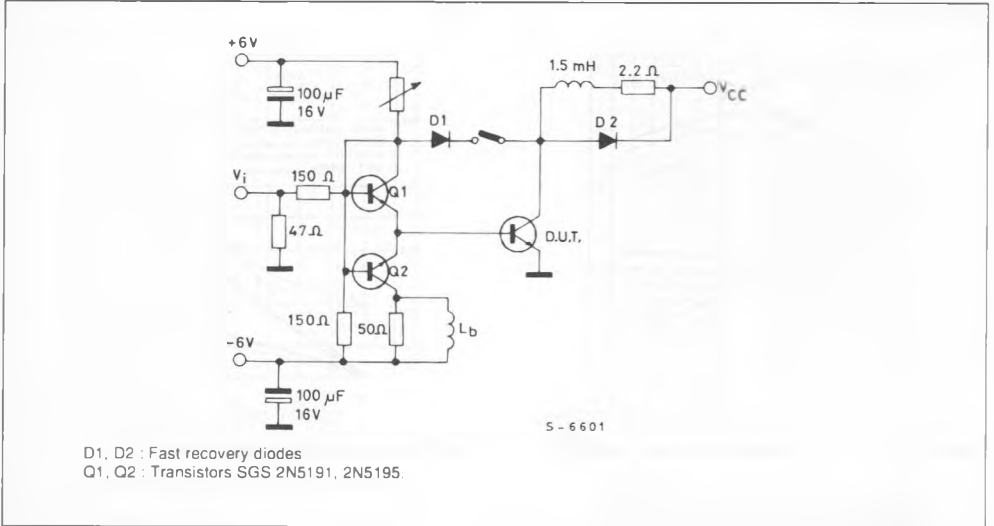

Figure 2 : Switching Times Test Circuit on resistive Load.
**RESISTIVE SWITCHING TIMES** (see fig. 2)
Switching Times vs. Collector Current (see fig.2).
Fall Times vs. Voltage Slope (see fig.2)..